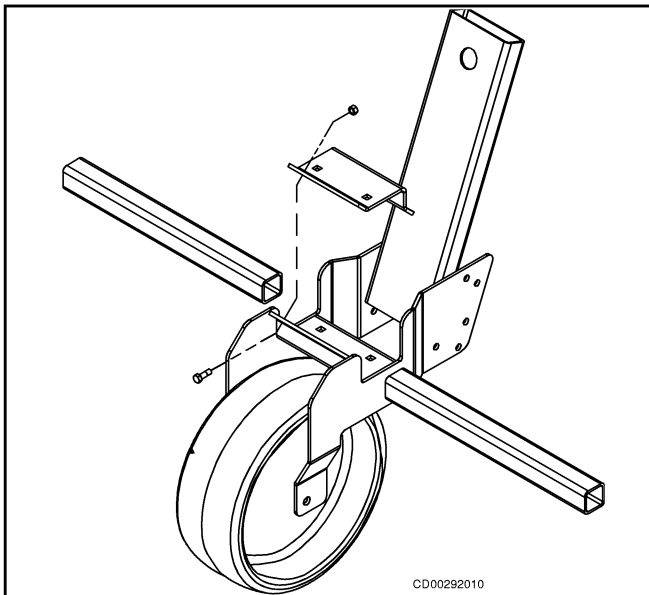

Figure 53 Front Tubes in Mast
1. Place front tubes in the mast as shown in Figure 53.